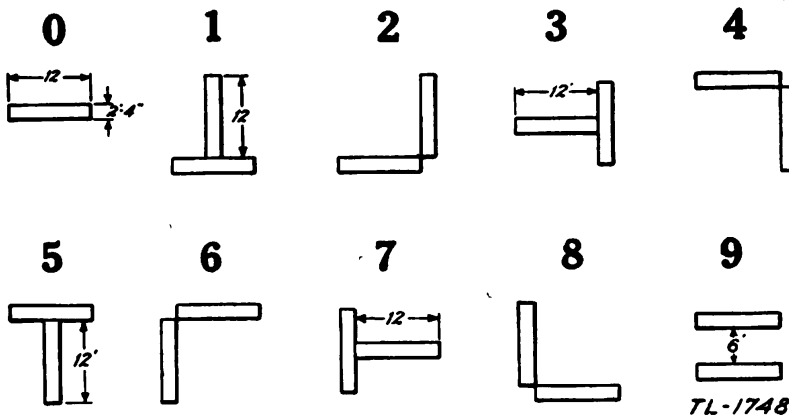

FIGURE 17.—Panel numerals.
(1) Air-ground liaison code, which is subject to frequent change for purposes of safety.
(2) Fire-control code, which is standard. Operators of a panel section must memorize panel numerals in figure 17 for use in codes.